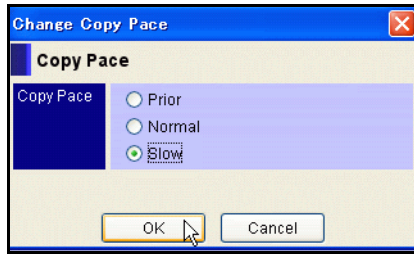

Figure 11-19: Change Copy Pace Panel
7. Select the copy pace and click **OK**. The Change Copy Pace panel appears, as shown in Figure 11-19.